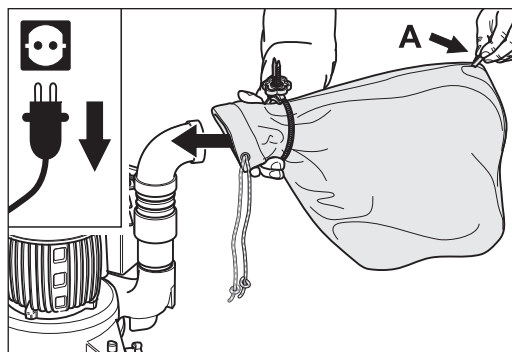

Fig. 3 Pull the dust bag over the suction pipe stub. The sling A must be on top.
- 3 Pull the opening of the dust bag over the suction pipe stub of the machine. Make sure that the sling on the dust bag is on top (Fig. 3).